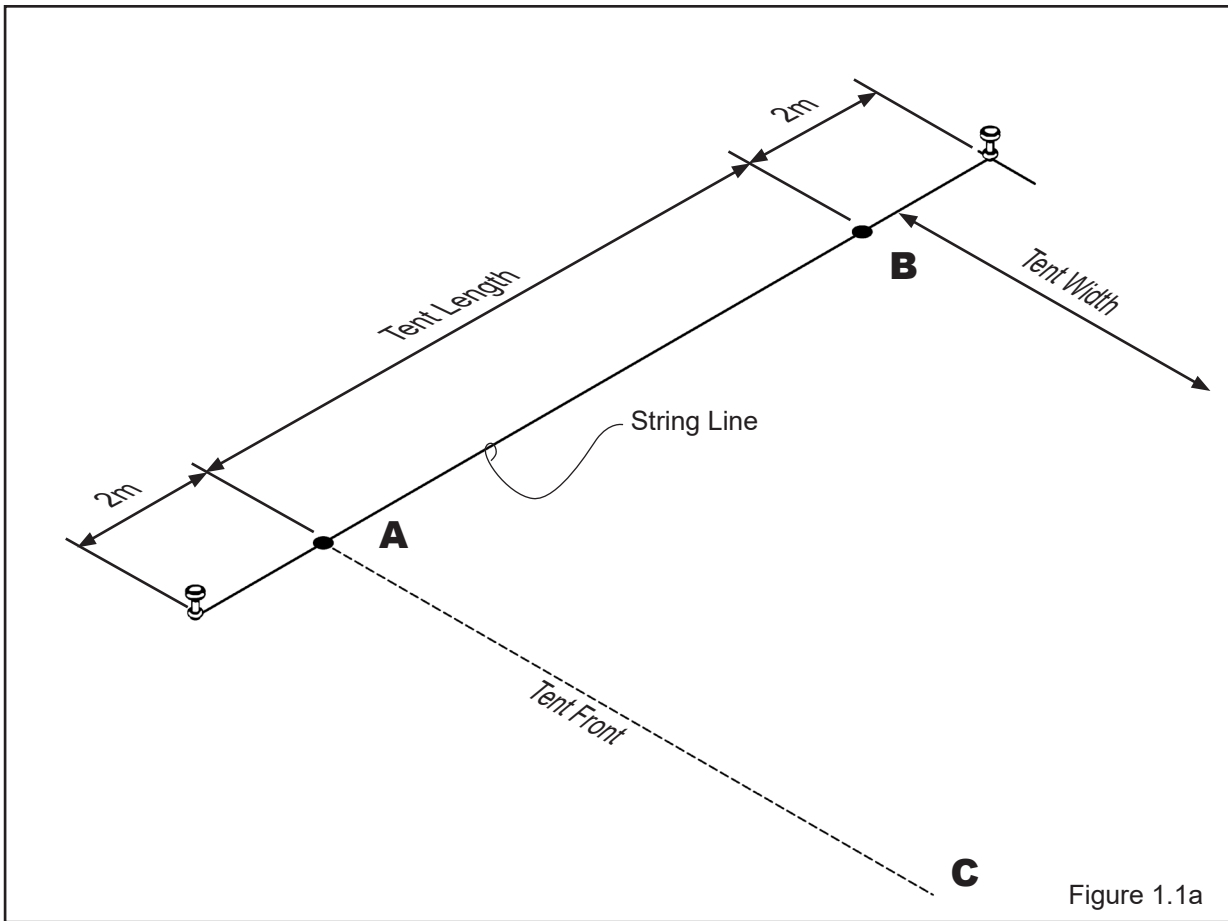

Figure 1.1a
- 1.1.1 Stretch a string line along the tent's length plus 2m past each end using stakes to establish the baseline A-B (side of tent) as shown in **Figure 1.1a**. The edges of side base plates must align with this string line.